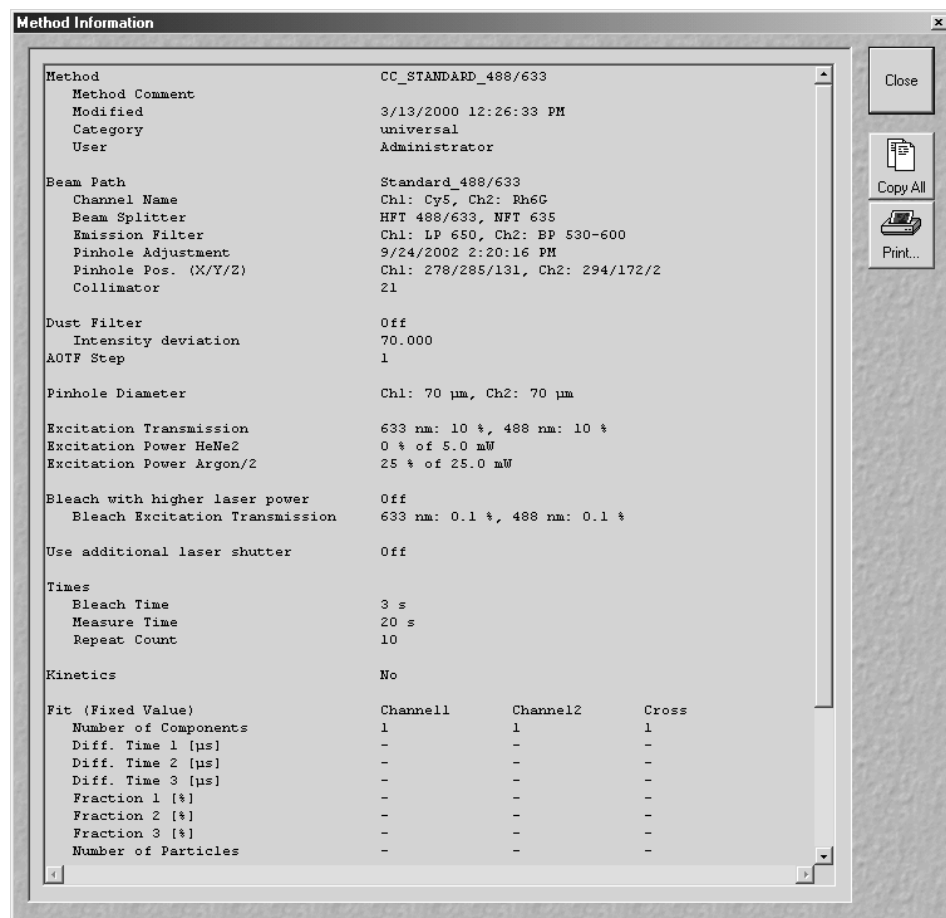

Fig. 5-164 Detailed description of the analysis method open
- After a click on the **Info** button a window will pop up which shows a detailed description of the analysis method (Fig. 5-164).